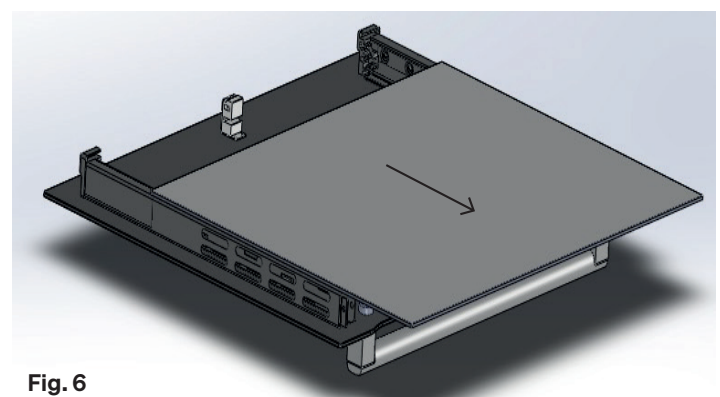

Fig. 6
- Gently pull out the inner pane of glass (fig. 6)